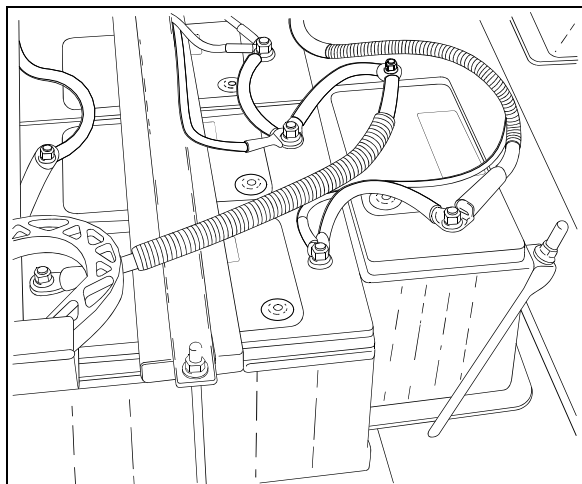

FIGURE 9: BATTERIES
The vehicle is provided with four (4) maintenance-free 12 volt heavy-duty batteries connected in series-parallel (Fig. 9). The top-mounted negative and positive terminals are tightly sealed to prevent leaks. Water never needs to be added to this type of battery. There are no filler caps in the cover. The battery is sealed, except for small vent holes in the cover. The vents must not be restricted as they allow small amounts of gases produced in the battery to escape. The special chemical composition inside the battery reduces gassing to a very small amount at normal charging voltages. Besides reducing gassing, the special chemistry greatly reduces the possibility of overcharge damage.